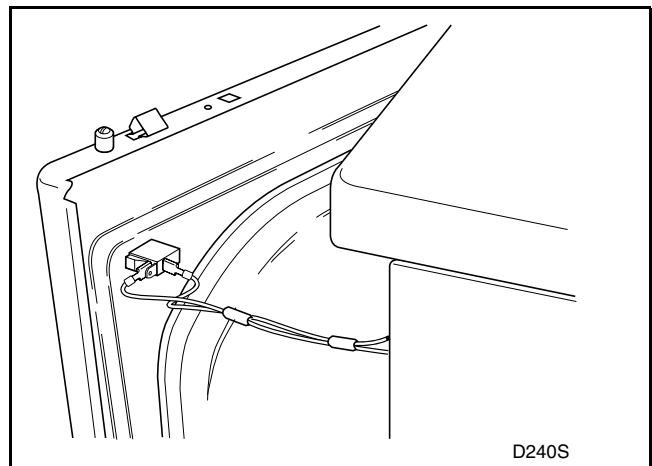

Figure 11
- c. Disconnect wires from door switch. Refer to *Figure 11*.